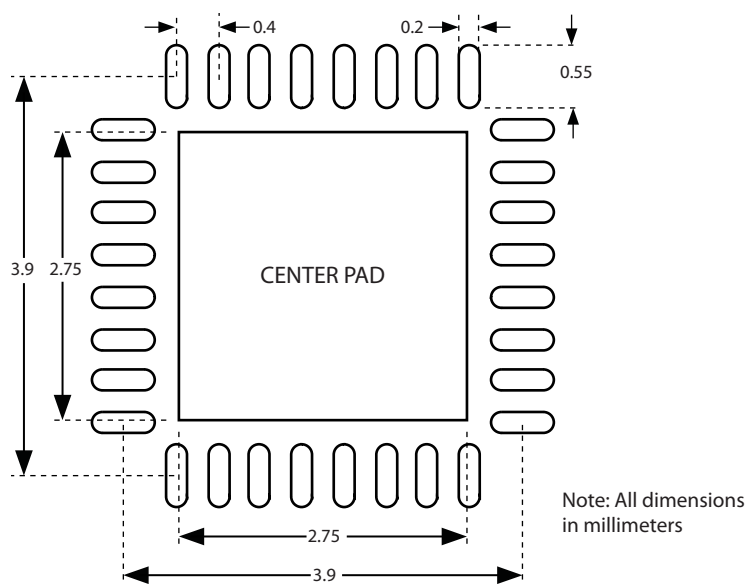

Figure 7-2: Recommended PCB Footprint
- The recommended PCB layout for the GN2044S device is shown in Figure 7-2